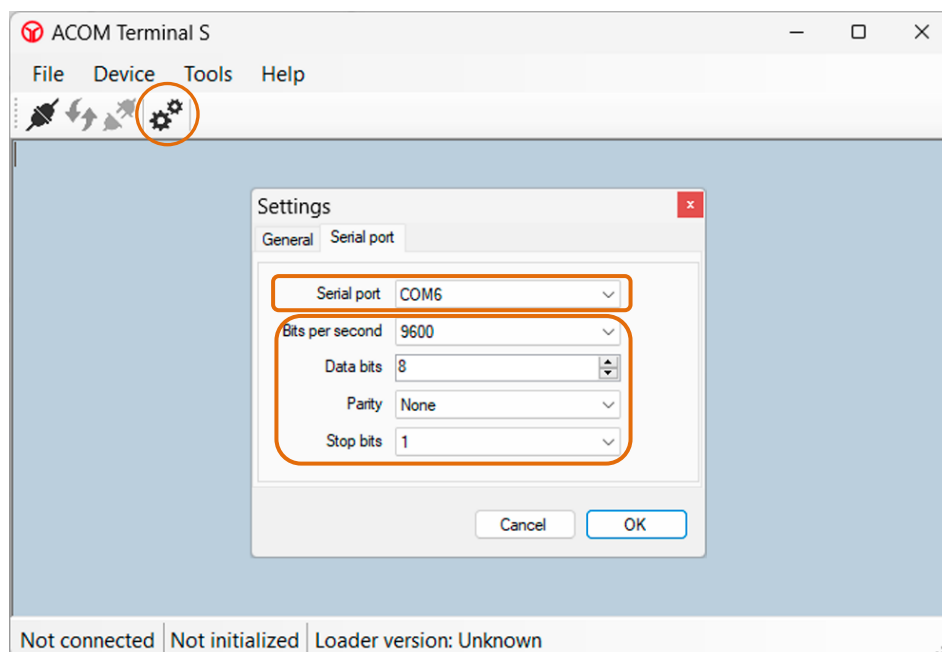

Figure 7-15 | Terminal S - Tools -> Setting -> Serial port menu
- In the **Settings** window -> tab **Serial port**, configure the settings as shown in **Figure 7-15 | Terminal S - Tools -> Setting -> Serial port menu**. For actual serial port number see **STEP 1 – RS-232 Interface Settings on your PC**: